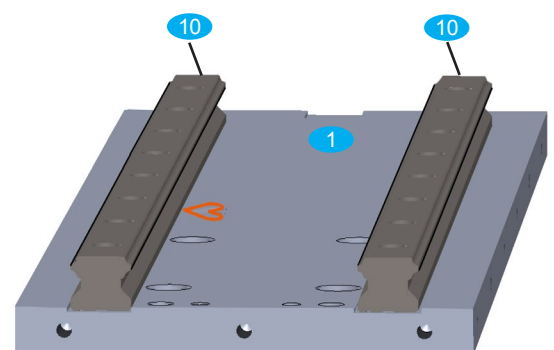

Fig. 3: Align the reference edge
- Align the left linear guide **10** flush with the lower edge of the plate **3** and screw it on with cylinder screws **28**; the edge (red marking in Fig. 3) of the linear guide must lie against the milled stop edge of the plate **3** over its entire length. Tightening torque: 6 Nm